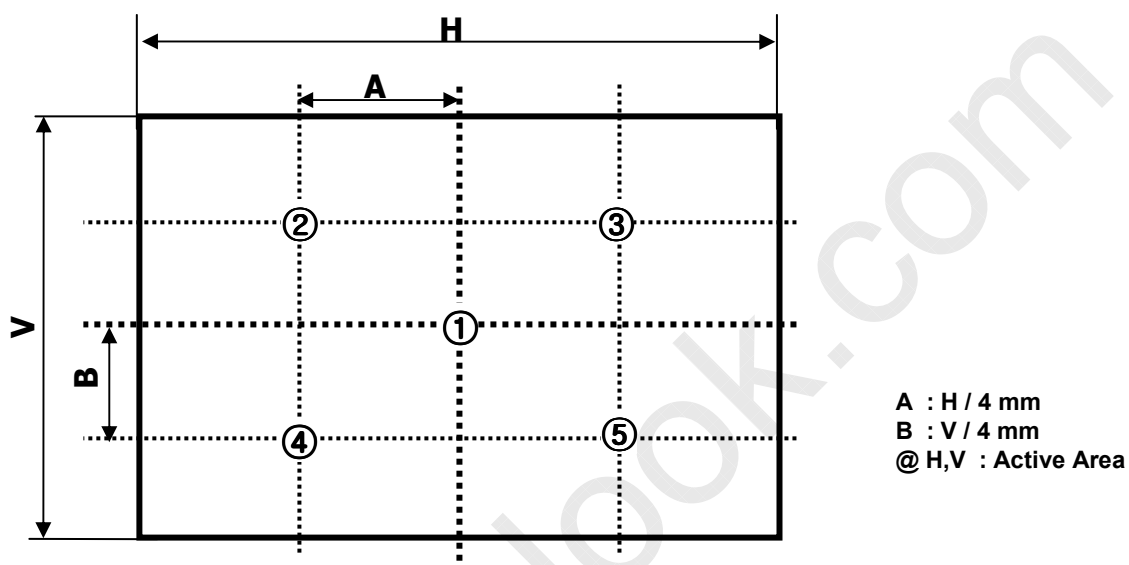

FIG. 2 5 Points for Luminance Measure
n = the Position number(1, 2, 3, 4, 5). For more information, see FIG 2.
2. Surface luminance are determined after the unit has been 'ON' and 60min after lighting the backlight in a dark environment at $25 \pm 2^\circ\text{C}$. Surface luminance is the luminance value at center 1-point across the LCD surface 50cm from the surface with all pixels displaying white. For more information see the FIG. 2.
For more information, see the FIG. 2.